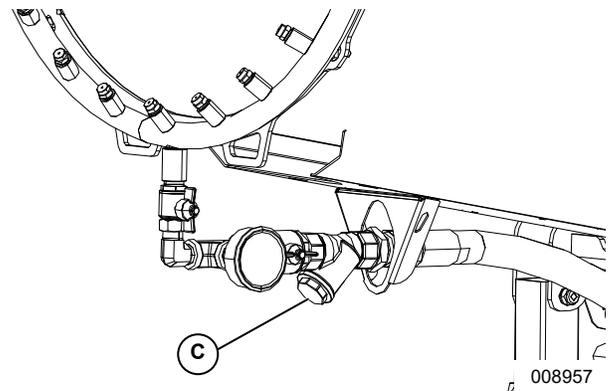

Figure 4-5. Nozzle Water Filters
1. See **Figure 4-5**. Remove nozzle filter plug (C).